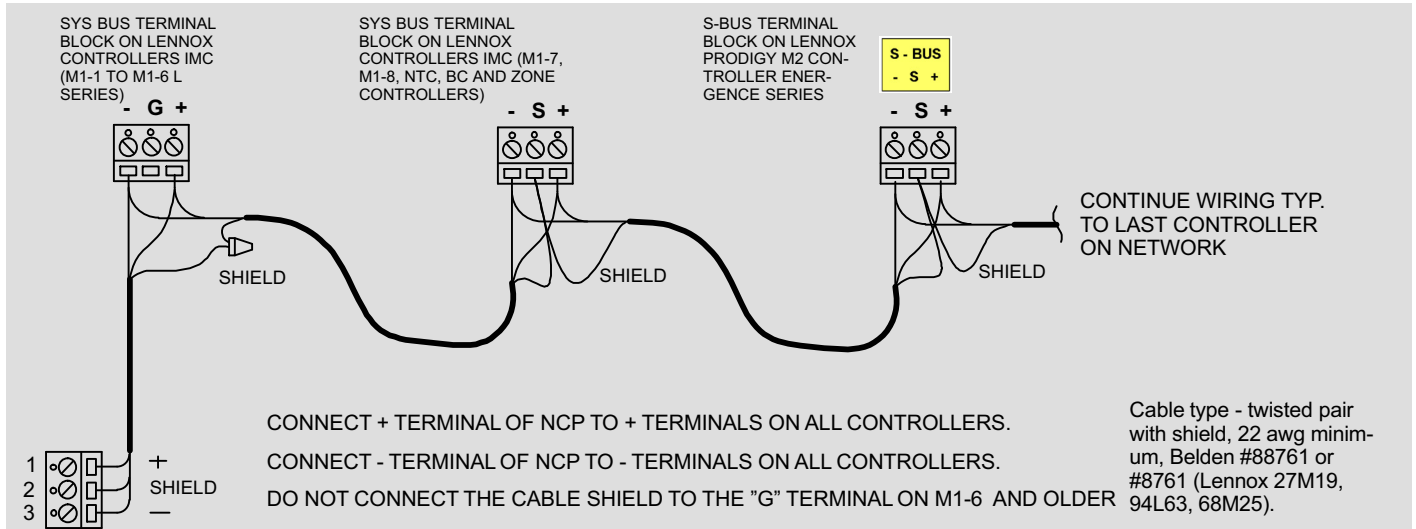

Figure 35. L Connection® Network Daisy-chain Communication Wiring
The network thermostat controller (NTC) is an L connection direct digital controller used on units which are not equipped with an M2. The Building Controller (BC) is used to control building functions such as lights and signs. Use L connection specific network cable and daisy chain as shown in figure 35.